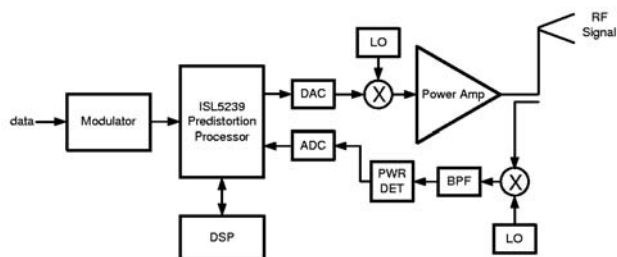

FIGURE 1. SYSTEM OVERVIEW
The ISL5239 is a full-featured digital pre-distortion part featuring a high-performance lookup-table based pre-distortion (PD) processing unit. It includes an interpolator for upsampling and supports all varieties of upconversion architectures with a programmable correction filter for equalization including both $\sin(x)/x$ correction and removal of frequency response imbalance between quadrature paths. It also features gain, phase, and offset compensation for direct upconversion, digital IF output for heterodyning, and input/output capture memories with internal/external triggering capabilities to facilitate closedloop feedback processing. System implementation is typically as shown in Figure 1. Although the power detect feedback is shown with one Analog to Digital Converter (ADC), coherently demodulated feedback signals configurations with 1 or 2 ADC's are also supported.